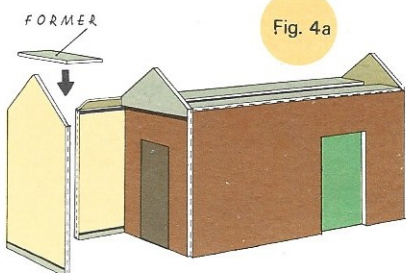

Fig. 4a
4. Take the STAFF ROOM, noting that the boarded section at the right hand end is divided into two by a score cut. Bend this half section right back and glue down. Glaze the windows and fix the DOOR behind its aperture. Bend and glue to shape (Fig. 4a). Take the two parts comprising the SCREEN, also joined by a scored line, and glue double, forming down one side the recess into which the boarded part of this building is fixed at right angles. Retain the shape by adding the FORMER, its position shown by the heavy black line. Before adding the ROOF its GUTTERS can be attached. Prepare these by making light bending cuts along the red arrow lines. Bend right back along these lines before opening flat again and cutting out. Bend over and glue down for double thickness the two solid black sections leaving the TAB to be bent up and glued to the underside of the ROOF (Fig. 4b). Glue down the roof, overlapping the screen end by 1mm. or so. Add the RIDGE TILES and the model is complete.